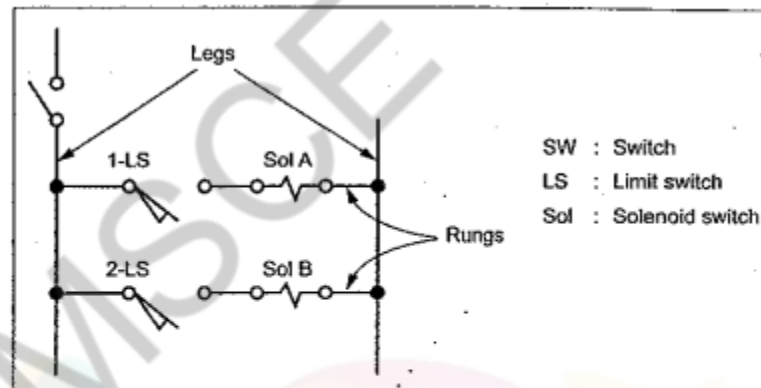

Fig. 9.9. Typical ladder diagram
Consider a typical ladder diagram as shown in Fig.9.9 for some application.
- ✓ **Legs and Rungs :** In Fig.9.9, the two vertical electrical power supply lines are called 'legs', and the horizontal lines containing electrical components are called 'rungs'.